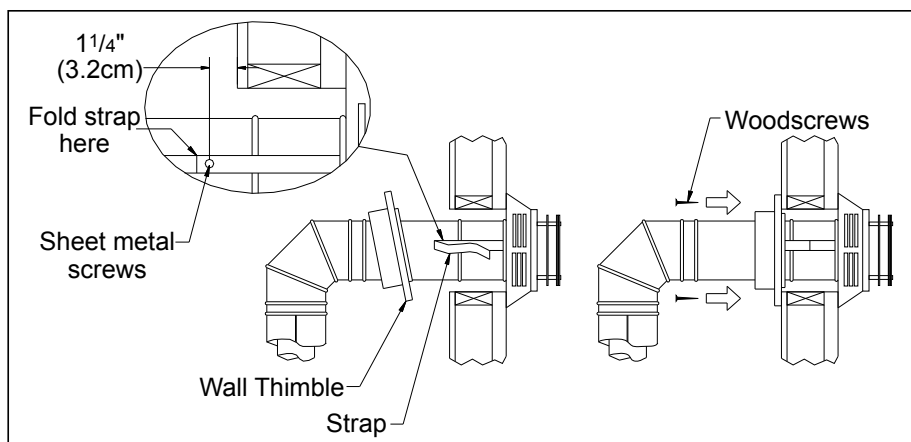

Figure 27: Installing Decorative Wall Thimble.
6. Slide the appliance and vent assembly towards the wall, carefully inserting the vent pipe into the cap assembly. It is important that the vent pipe extend into the vent cap a sufficient distance with a minimum of 1¼" (3.2cm) overlap. Secure the connection between the vent cap pipe and the vent cap by attaching the two sheet metal straps extending from the vent cap assembly into the outer wall of the vent pipe. Use the two sheet metal screws provided to connect the straps to the vent pipe. Bend any remaining portion of the sheet metal straps back towards the vent cap, so the decorative wall thimble will conceal it (see left image in Figure 27).
7. Slide the decorative wall thimble up to the wall surface and attach with the screws provided. Apply decorative brass or chrome trim if desired (see right image in Figure 27).